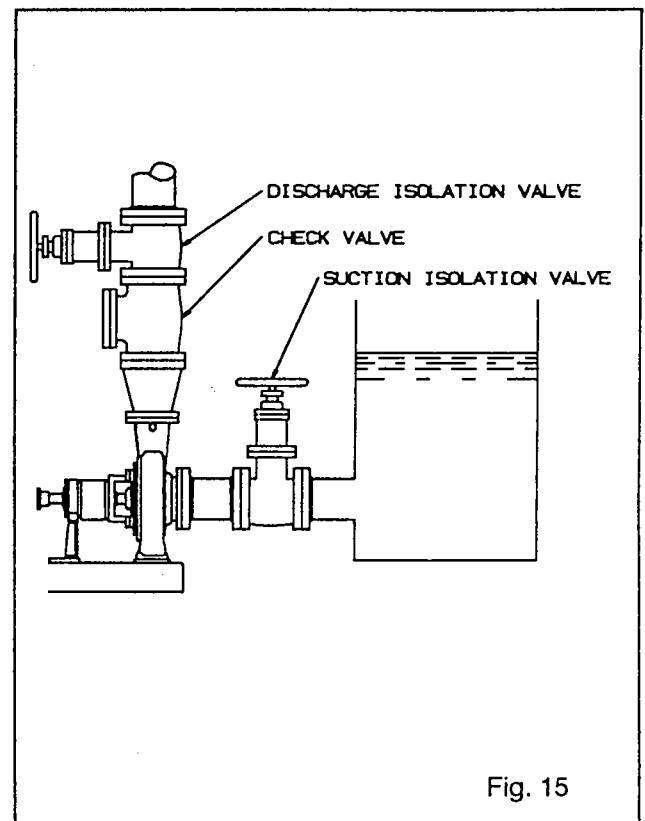

Fig. 15
1. Slowly open the suction valve (Fig. 15).